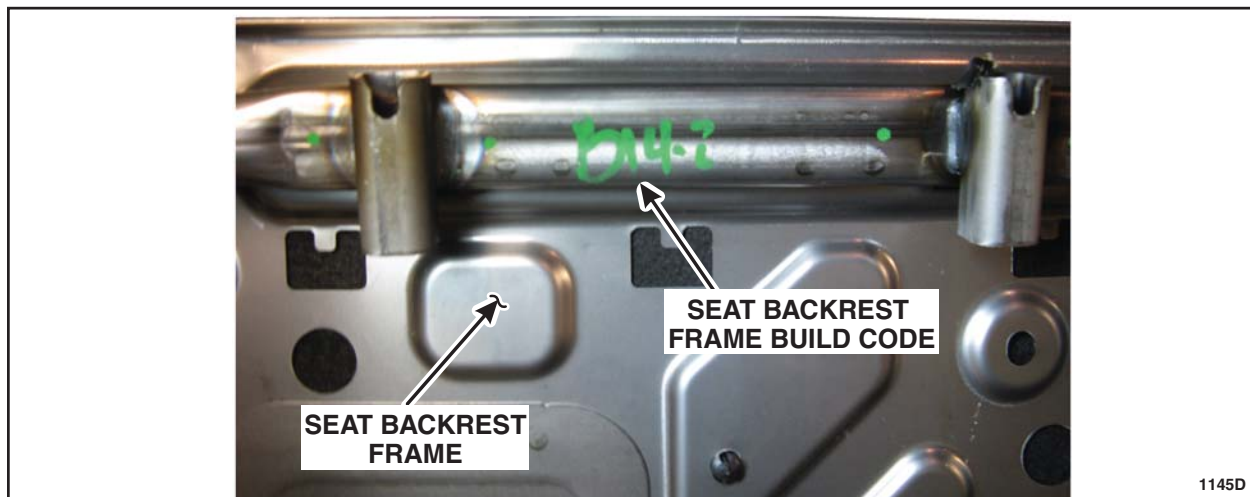

FIGURE 6
19. Inspect the seat backrest frame build code. See Figure 6.